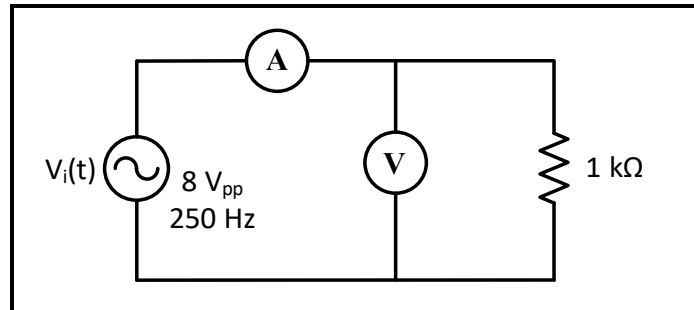

Figure 7.7
1. For the circuits shown in Figures 7.7 - 7.10 **calculate the magnitude** of the impedances Z_R , Z_C , Z_L , and Z_{RC} respectively, for the following frequencies: 250, 500, 1000 and 2000 Hz.
1. Connect the circuit in Figure 7.7, set V_{in} to sinusoidal voltage at $8 V_{PP}$, $f = 250$ Hz